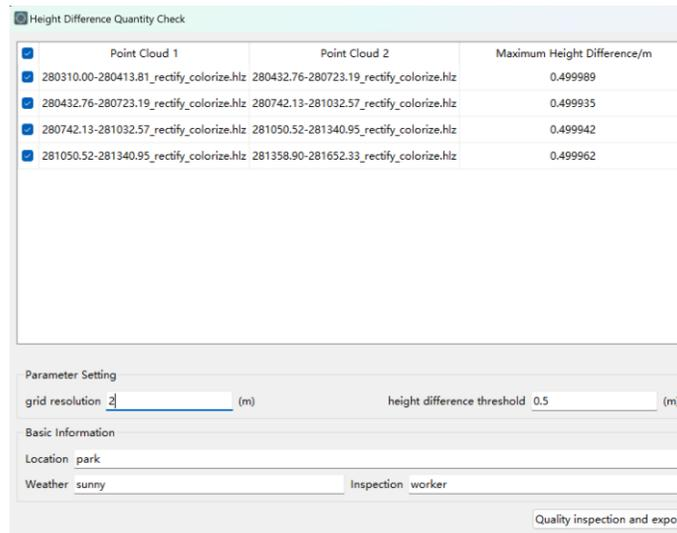

Figure 3-91 Result of height Different quality check
- Optionally, fill in the survey area location, weather conditions, and inspector details. Once you click the quality check button, the program will perform the height difference quality check, with results displayed in Figure 3-91.